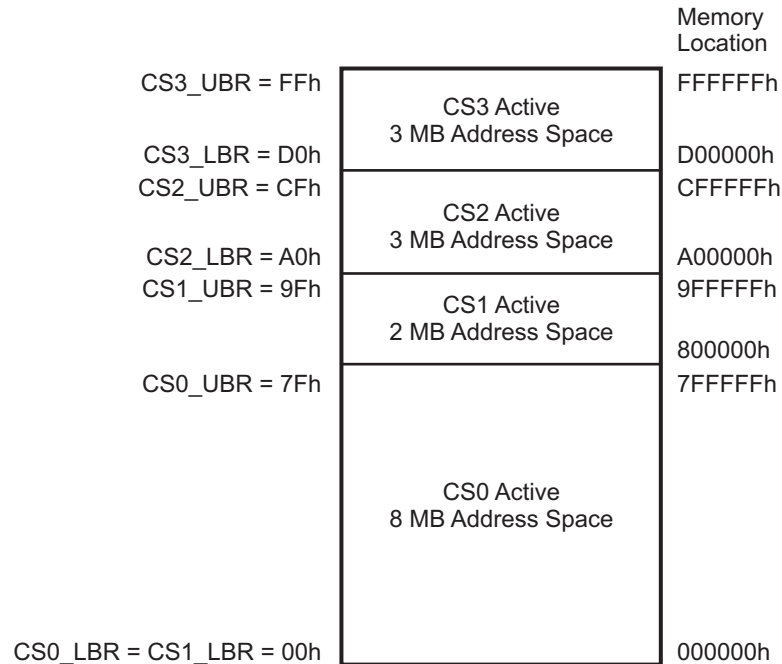

Figure 6. Example: Memory Chip Select
The use of Memory Chip Selects is demonstrated in Figure 6. The associated control register values indicated in Table 14. In this example, all 4 Chip Selects are enabled and configured for memory addresses. Also, CS1 overlaps with CS0. Because CS0 is prioritized higher than CS1, CS1 is not active for much of its defined address space.
**Table 14. Register Values for Memory Chip Select Example in Figure 6**